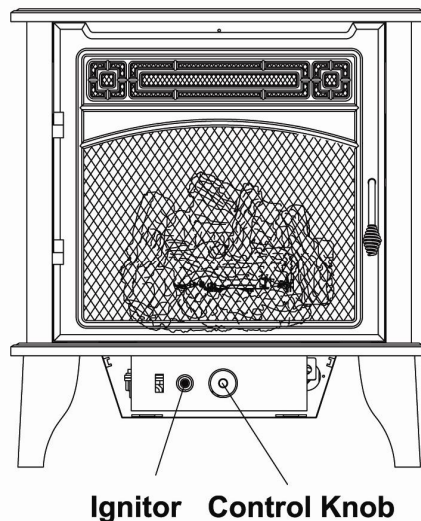

Figure 14 Control Knob Position
3. Turn control knob clockwise to the OFF position, see Figure 14.
4. Wait five (5) minutes to clear out any gas. Then smell for gas around heater and near floor. If you smell gas, **STOP!** Follow "B" in the safety information on Warnings plate. If you don't smell gas, go to the next step.
5. Turn control knob counterclockwise to the PILOT position. Keep control knob pressed in for five (5) seconds. **Note:** You may be running this heater for the first time after hooking up to gas supply. If so, the control knob may need to be pressed in for 30 seconds. This will allow air to bleed from the gas system. If control knob does not pop up when released, contact a qualified service person or gas supplier for repairs.
7. Keep control knob pressed in for 30 seconds after lighting pilot. After 30 seconds, release control knob. **Note:** If pilot goes out, repeat steps 3 through 7. This heater has a safety interlock system. Wait one (1) minute before lighting pilot again.